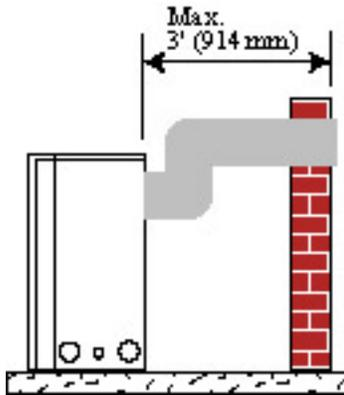

Fig. 19
- If a 90° elbow is fitted directly onto transition elbow attached to the appliance flange the maximum horizontal vent run before the termination or a vertical rise is 36" (914 mm), Fig. 19.